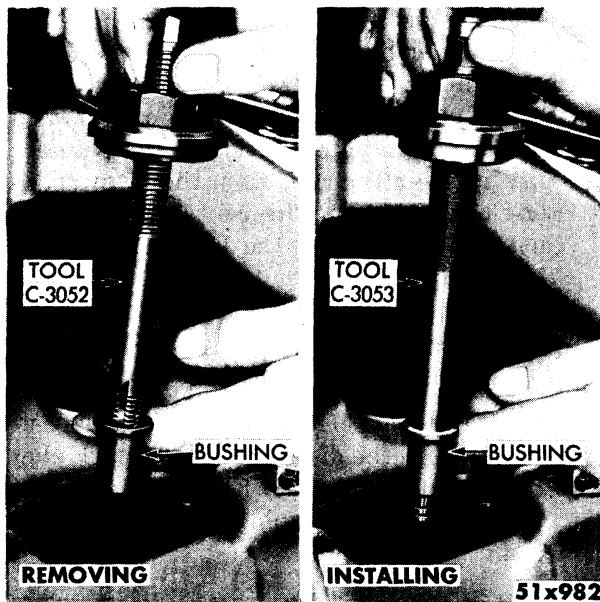

Fig. 159—Removing and Installing Distributor Drive Shaft Bushing
- (1) Insert Tool C-3052 into old bushing and thread down until a tight fit is obtained. Hold the puller head with a wrench, tighten puller bolt and pull out of bore in the block, as shown in Figure 159.
- (2) Slide new bushing over burnishing end of Tool C-3053, as shown in Figure 159. Insert tool and bushing into bore of block.
- (3) Drive the bushing and tool down into position using a soft hammer. As the burnisher is pulled through the bushing by pressure applied by tightening the puller nut, the tool swedges the bushing tight in its bore and burnishes to the correct size. **DO NOT REAM THIS BUSHING!**